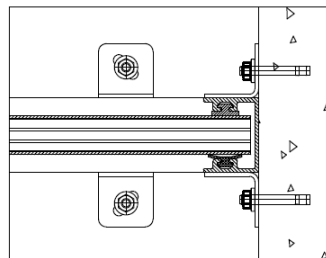
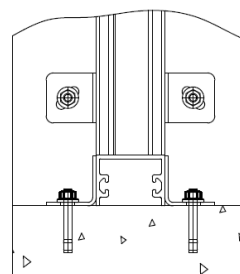
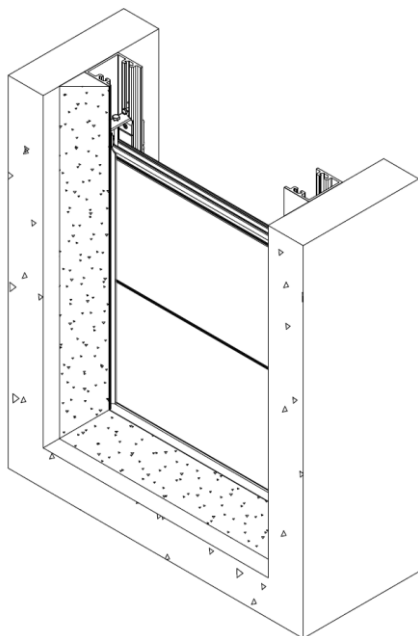

Figure 7
Figure 8
Figure 9
- Install the bottom anchor bolts, and then the lateral anchor bolts (see Figure 7). All Face Mounted Channel Gates include lateral mounting
Grout-fill the remaining voids (See Figure 9), both at the bottom (See Figure 8) and laterals of the gate (See Figure 7). Remember that the objective of the grout fill is twofold: